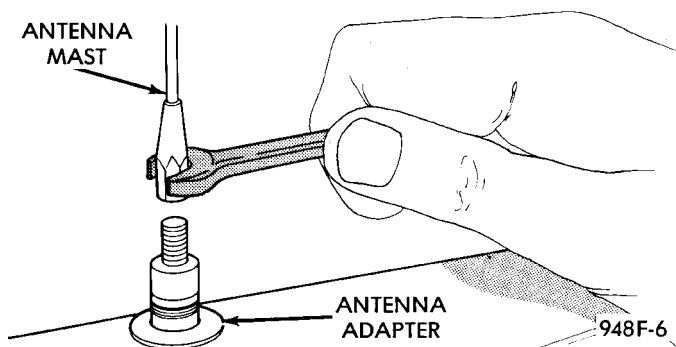
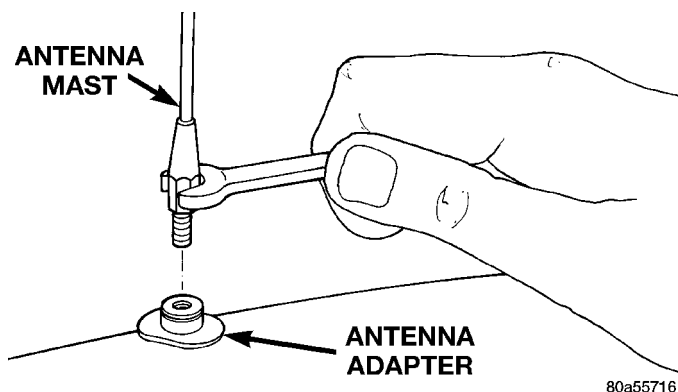
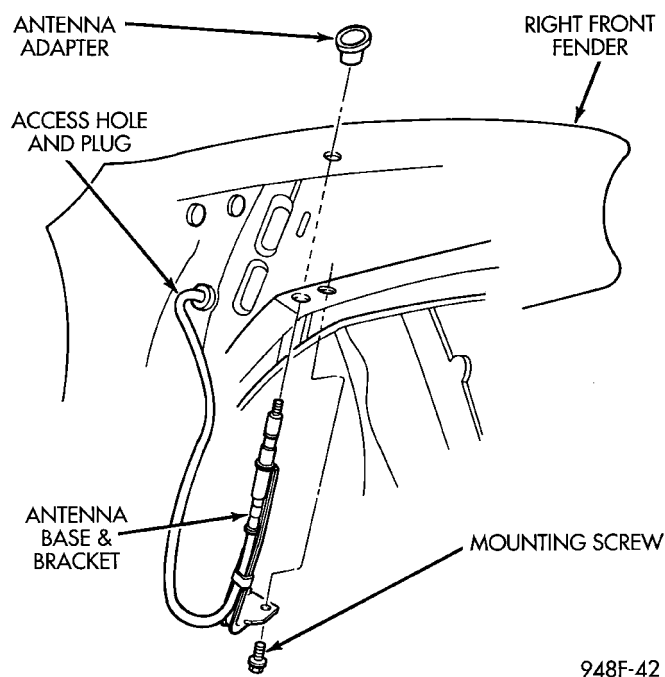

Fig. 3 Antenna Mast Removal
Fig. 4 Antenna Mast Removal - Export
Fig. 5 Antenna Mounting
(1) Remove antenna mast by unscrewing mast from antenna body (Fig. 3), or (Fig. 4).
(2) Locate the antenna lead disconnect in the instrument panel wire harness above the right kick panel. Disconnect the antenna cable from cable lead.
(3) Unfasten push pins from the rear of the plastic inner fender shield and move shield to gain access to mounting screws (Fig. 5).
(4) Remove mounting screw and remove antenna base and cable assembly from under the fender.